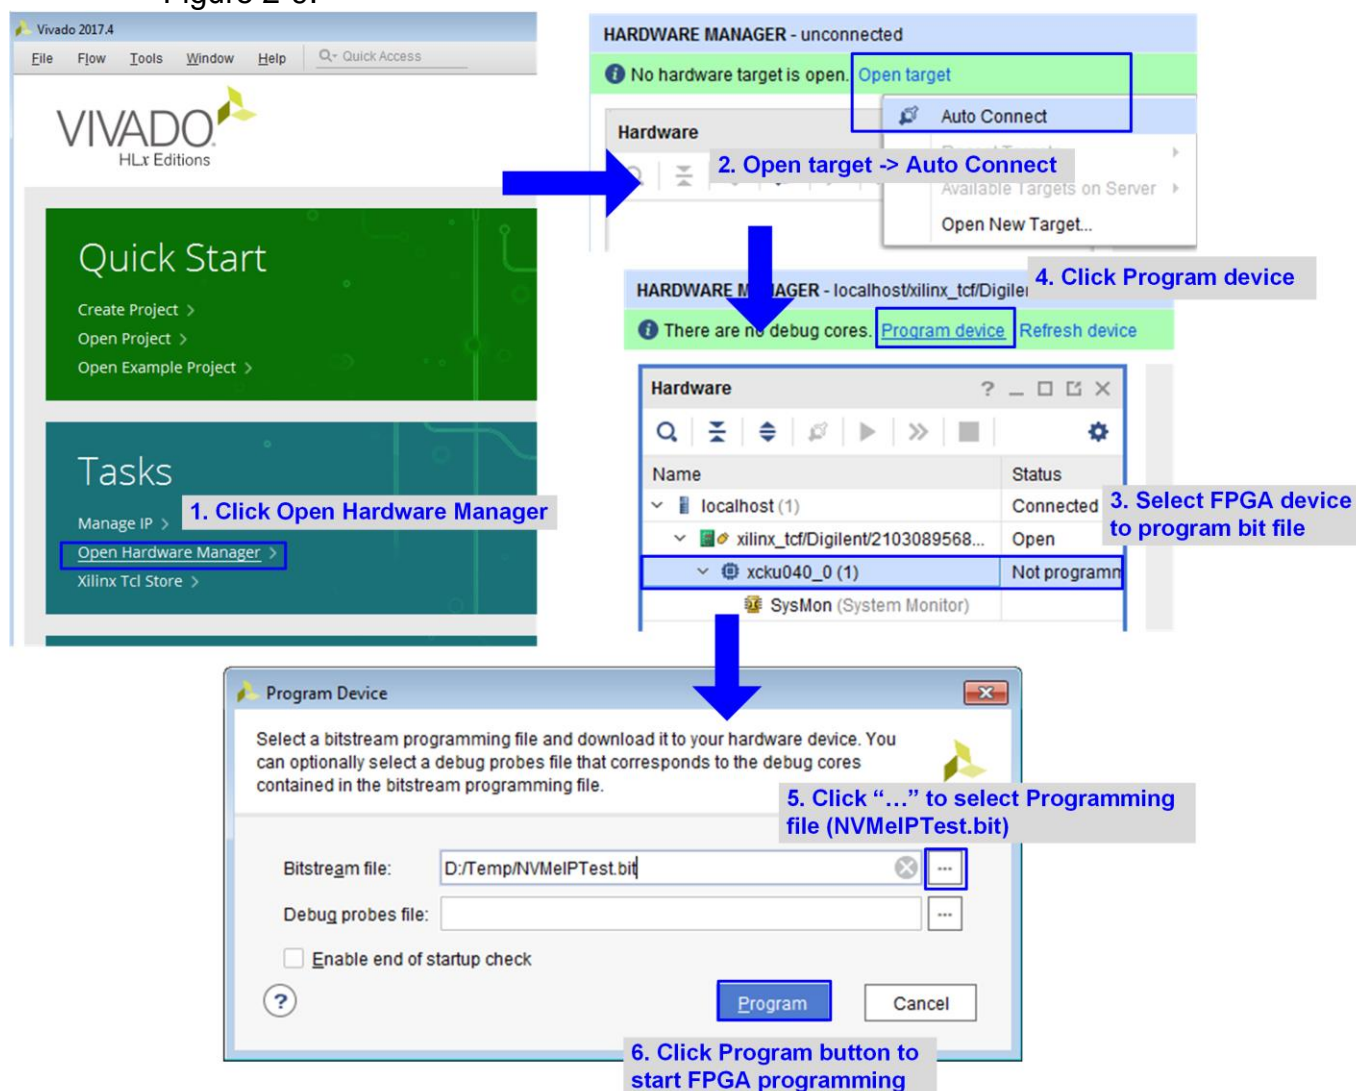

Figure 2-9 Programmed by Vivado
a. For KCU105 and VCU118, use Vivado tool to download configuration file, as shown in Figure 2-9.